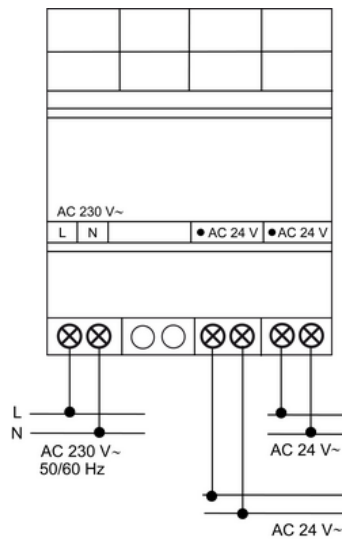

Figure 1
- Connect the device according to the connection diagram (figure 1).